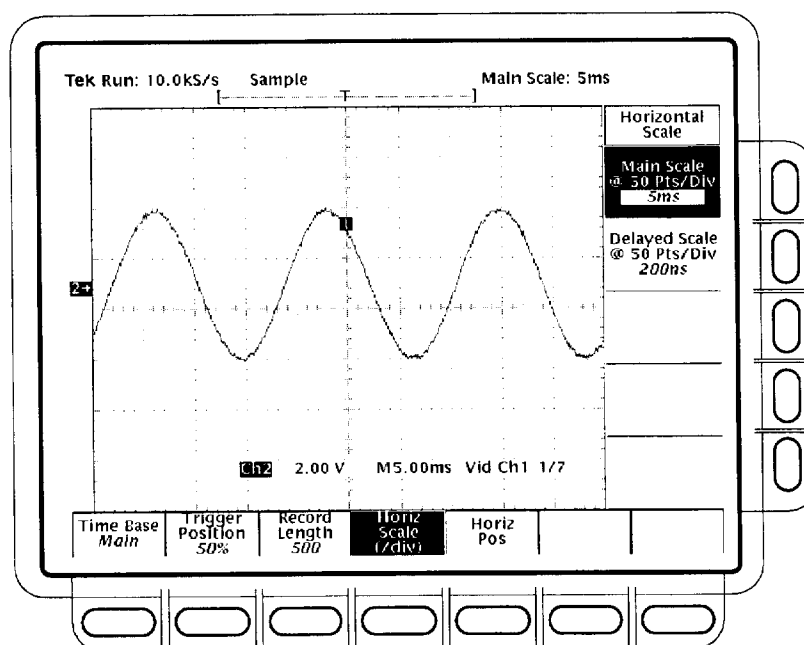

Figure 1-32: 60 Hz Rejection test setup signal
- Adjust the signal generator for three vertical divisions of 60 Hz signal. See Figure 1-32. The signal will not be triggered. That is, it will run free.